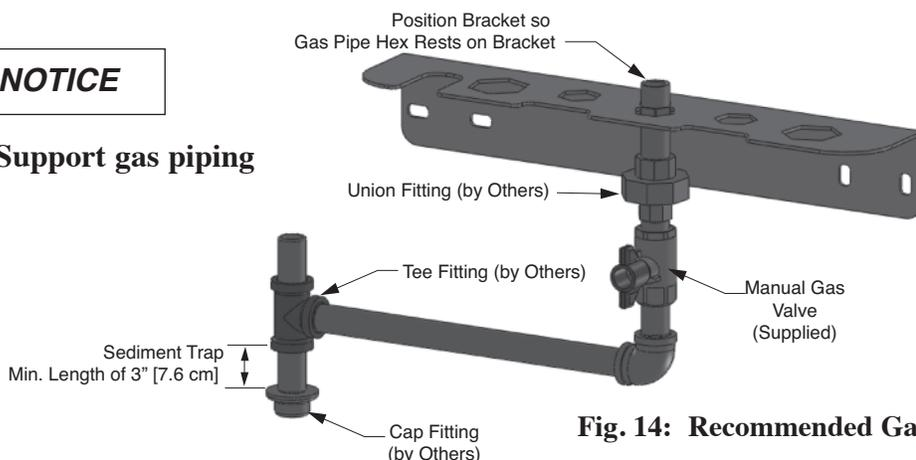

Fig. 14: Recommended Gas Supply Piping
2. Install the factory supplied manual shutoff valve in the gas supply piping as shown in Fig. 14. For installations in Canada the installer must tag and identify the main shutoff valve.
3. Install a sediment trap (drip leg) on the gas supply line prior to connecting to the CHALLENGER gas train as shown in Fig. 14.